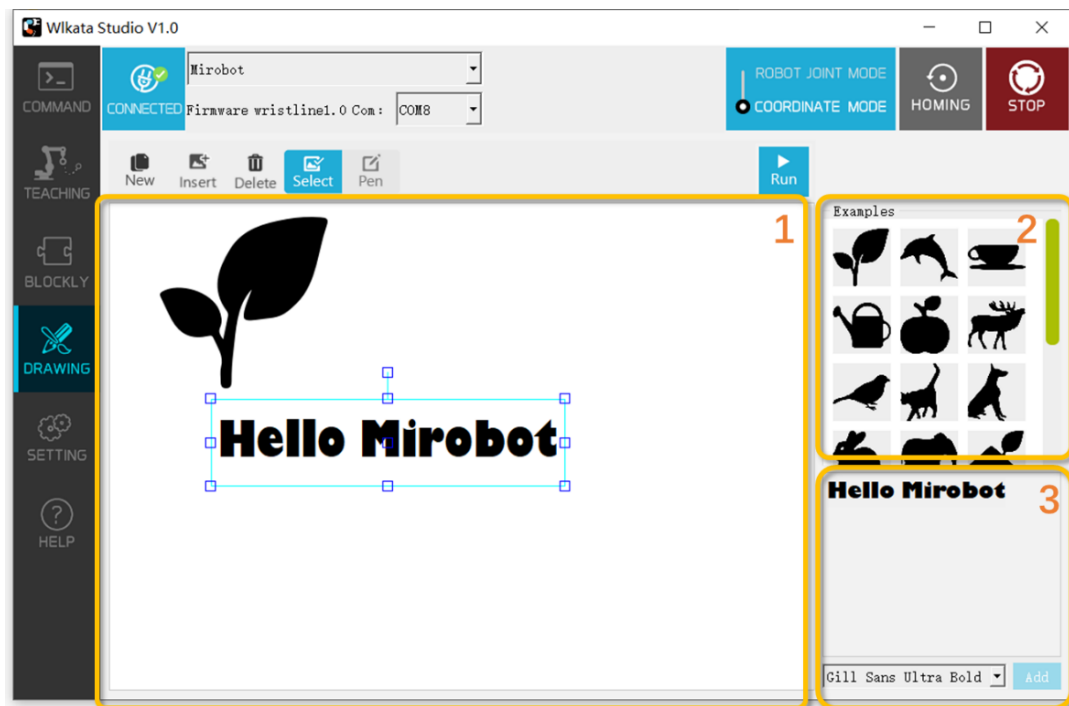
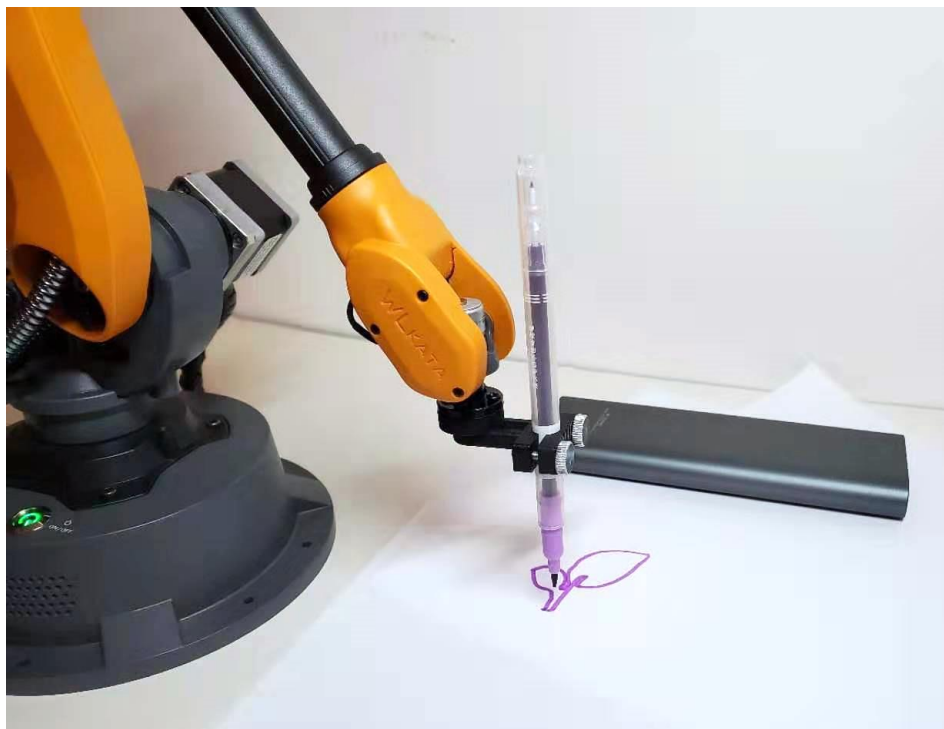

Figure 3.37 Inserting graph to the center canvas in the DRAWING page
Figure 3.39 Drawing by WLKATA Mirobot
(7) Click the **DRAWING** tab in the software to switch to the drawing page.
(8) To add a graph from existing files, you can either choose an example from the upper right panel 2 **Examples**, or insert a graph by click **Insert** button. The graph you have chosen should be shown in the center canvas. As show in Figure 3.37.
(9) To add a text graph, typing in the lower right panel 3 and click **Add** button, and the text you have typed should be placed in the center canvas, as shown in Figure 3.37.
(11) To adjust the size and position of the graph, ensure the **Select | Pen** button is in the **Select** mode → click the graph in the canvas and a resize frame would appear around the graph. Adjust the corners to resize the graph and drag the inner frame to change the position of the graph. As shown in Figure 3.37.
(12) To delete the unwanted graph on the canvas, ensure the **Select | Pen** button is in the **Select** mode → choose the unwanted graph on the canvas → click **Delete** button.
(13) To start the drawing, click **Run** button, and the manipulator will draw the graph(s) on the canvas. Figure 3.39
(14) To start over from a blank canvas, click **New** button to clear the canvas.